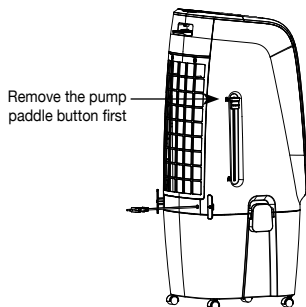

Fig. 1
After taking out the product, first remove the pump paddle button as shown in Fig. 1, then slide the pump paddle to the bottom, so that the pump extends down into the tank and allows normal operation.
- From the top: First open the water cover, and then slowly pour water into the tank with a kettle (Fig. 1 & 2), and then put the water cover in the original position.
Open water filling cover (Fig. 1)